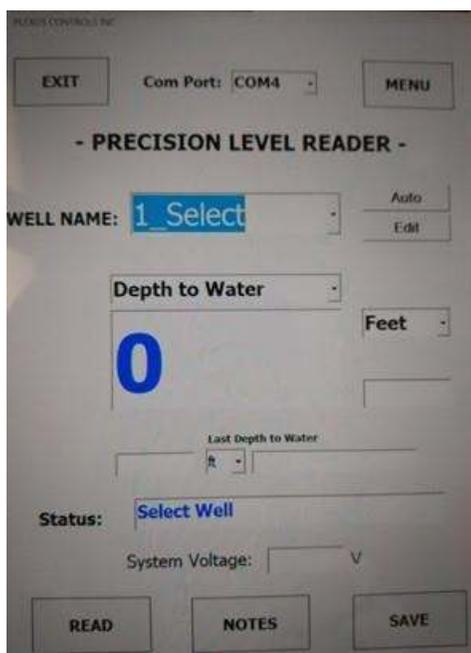

Figure 3 - Main Screen
4. While located within 5m of a Remote Management System select the Windows icon at the bottom left of the screen and scroll down through the programs to select "QED Controls" and the PLR application. The application software will run and display a screen similar to Main Screen shown in Figure 3 below.